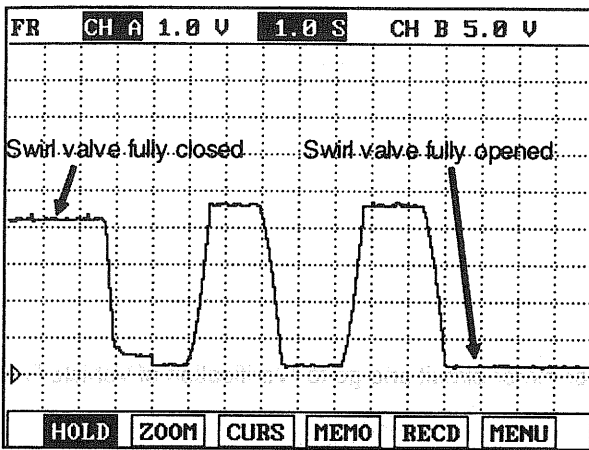

Fig.3
- Fig. 3) Waveform of variable swirl control actuator motor position sensor at the point of turning engine OFF.